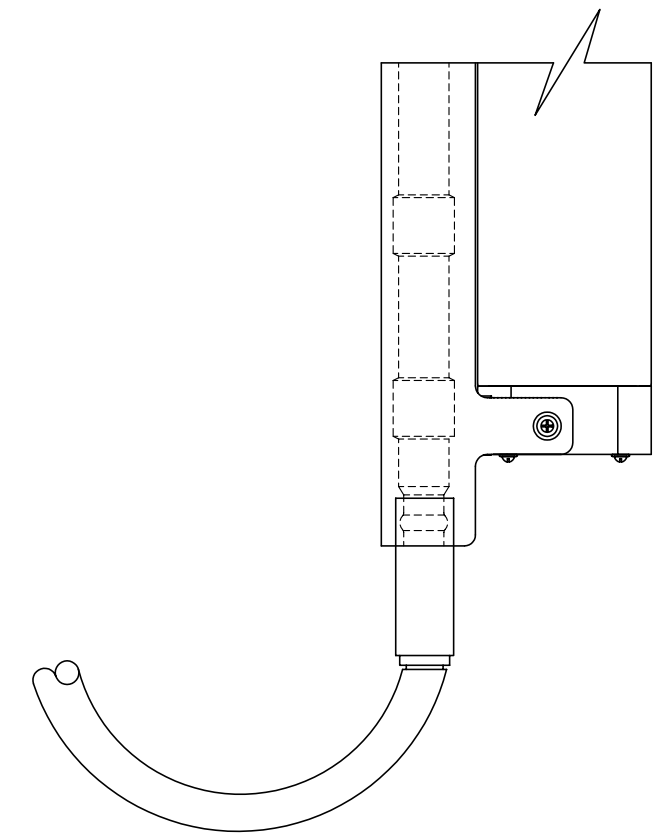

FIGURE 2
3. For systems without a TC Duct, connect tubing directly to open end of conductivity cell. [Figure 2]